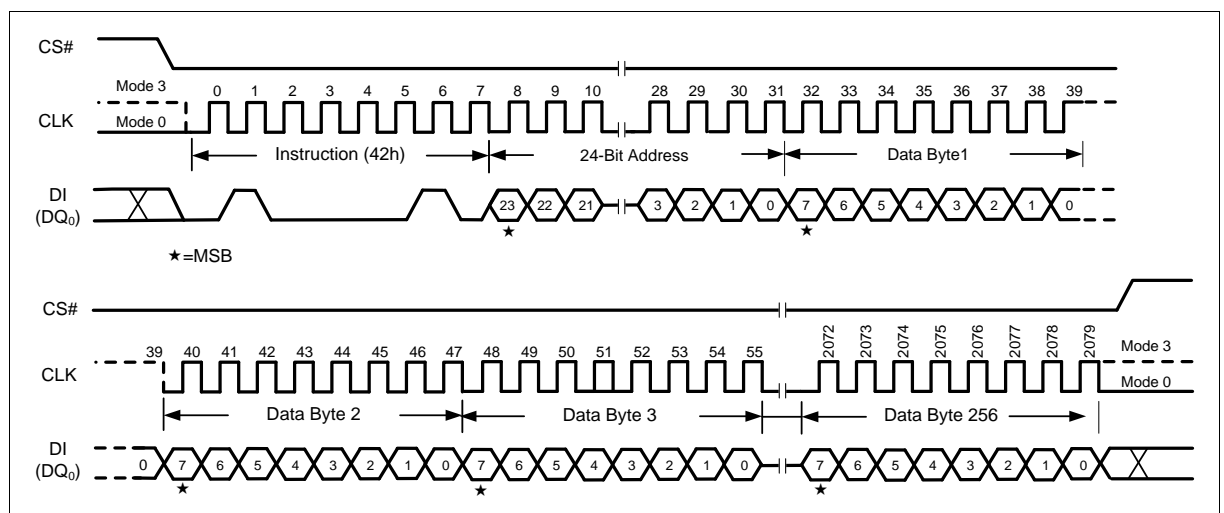

Figure 54 Program Security Sectors Instruction (SPI Mode only)
The Program Security Sector instruction sequence is shown in Figure 54. The Security Sector Lock Bit (LB) in the Status Register-2 can be used to OTP protect the Security Sectors. Once a lock bit is set to 1, the Security Sector will be permanently locked and Program Security Sector instruction will be ignored.